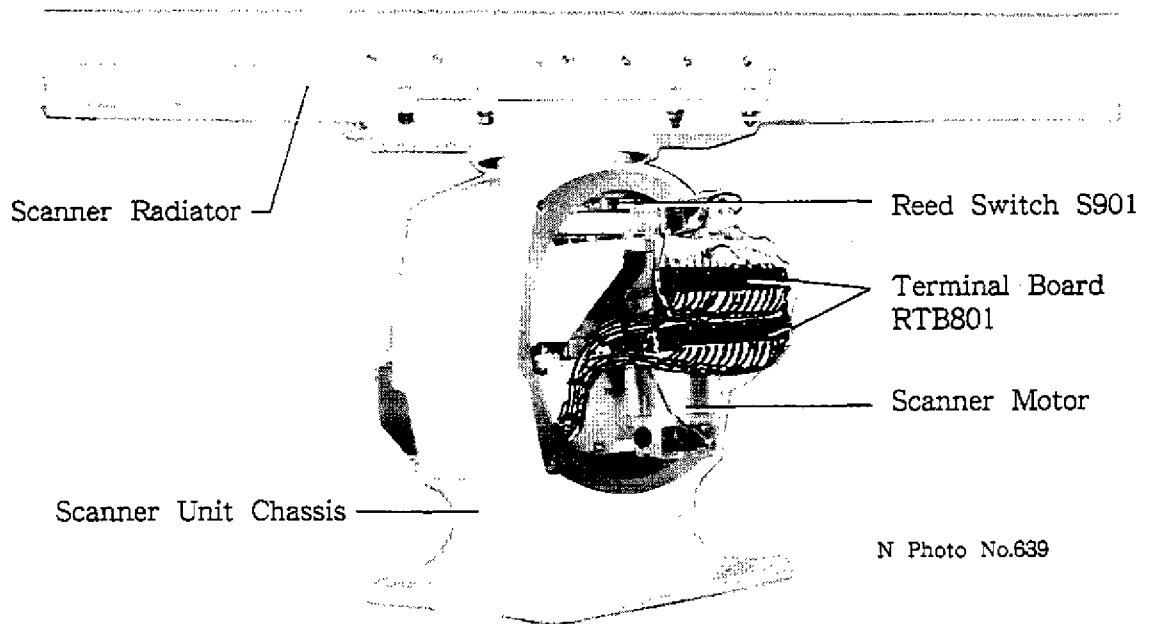

Figure 2-11 Scanner unit, cover opened
- 8) Referring to Figure 2-11, bind cores with cable ties.